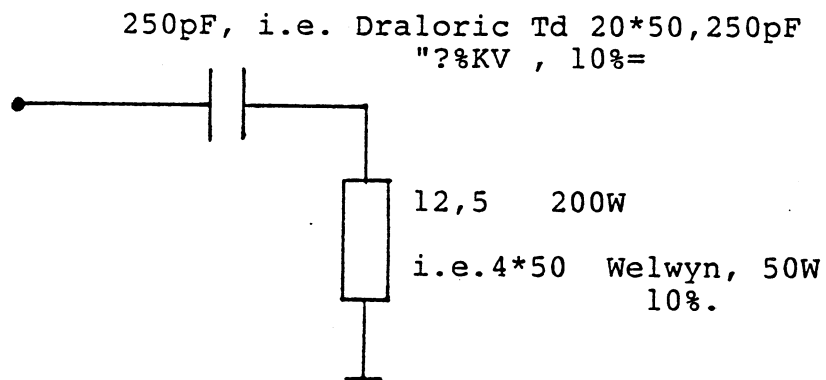

Fig.6.1. Dummyload for the CT band,
- Dummy load 100 ohm +250 pF, 250 W, cf. fig. 6.1